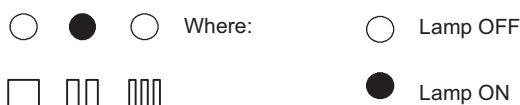

Figure 10.10
- 11 Press the reset button D once until the lamps F give the indication as in Figure 10.10 (useful output, second step).